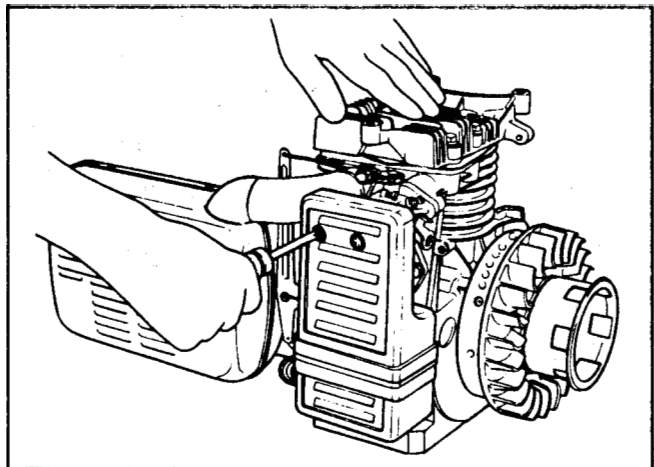

Figure 65
19. Remove the air cleaner assembly as shown in Figure 65.